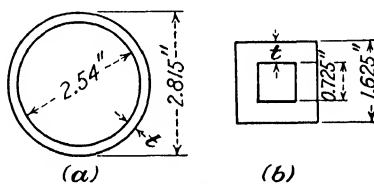

Fig. 39.
14. Find the wall thickness  $t$  of the tubes in Fig. 39.